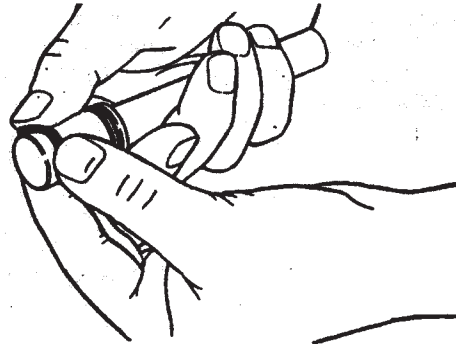

Figure 12. Removing "O"-Rings
- B. Remove "O"-ring by squeezing upward as shown in Figure 12. When a loop is formed, roll the "O"-ring out of the "O"-ring groove.